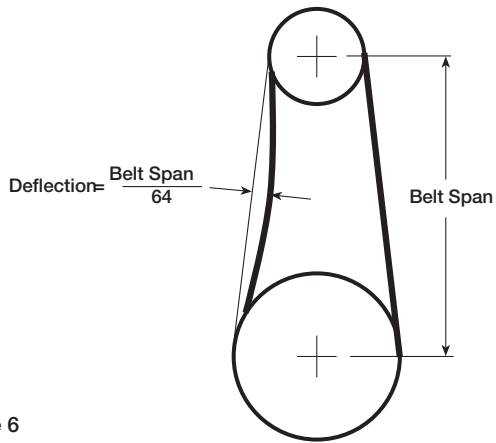

Figure 6
9. Belt tension should be adjusted to allow $\frac{1}{64}$ in. (0.397 mm) of deflection per inch of belt span. For example, a 15 in. (381 mm) belt span should have $1\frac{5}{64}$ in. (0.234 mm) (or about $\frac{1}{4}$ in. (6 mm)) of deflection with moderate thumb pressure at mid-point between pulleys, see Figure 6.